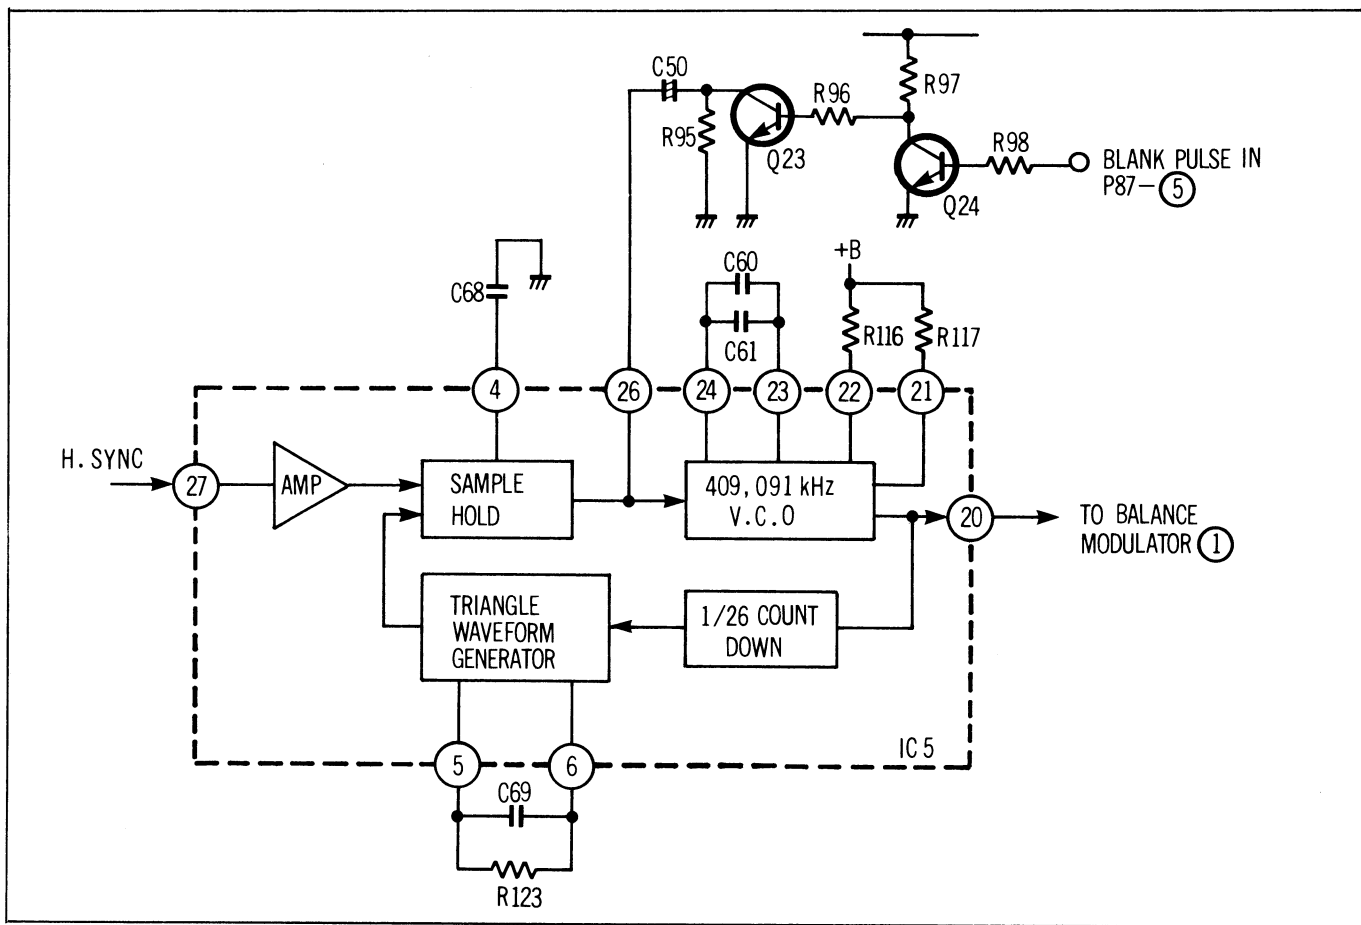

Figure 2-119
In the AFC loop, IC5 contains a VCO whose free-run frequency is determined by R117, R116, C60, C61 at pins (21)-(24) and the voltage at pin (25) ($409.091 \text{ kHz} = 15.73426 \text{ kHz} \times 26$). This output signal is also fed to a 1/26 count down circuit within the IC (See Fig. 2-119).